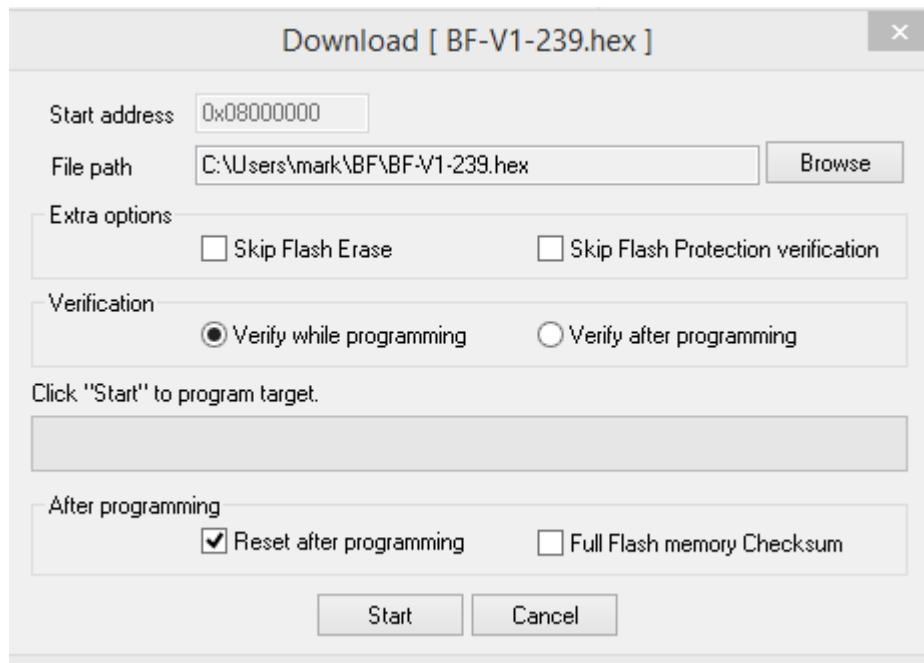

Figure 39: Download window
7. After selecting the file, you will see “download” window. See figure 39. Press Start.